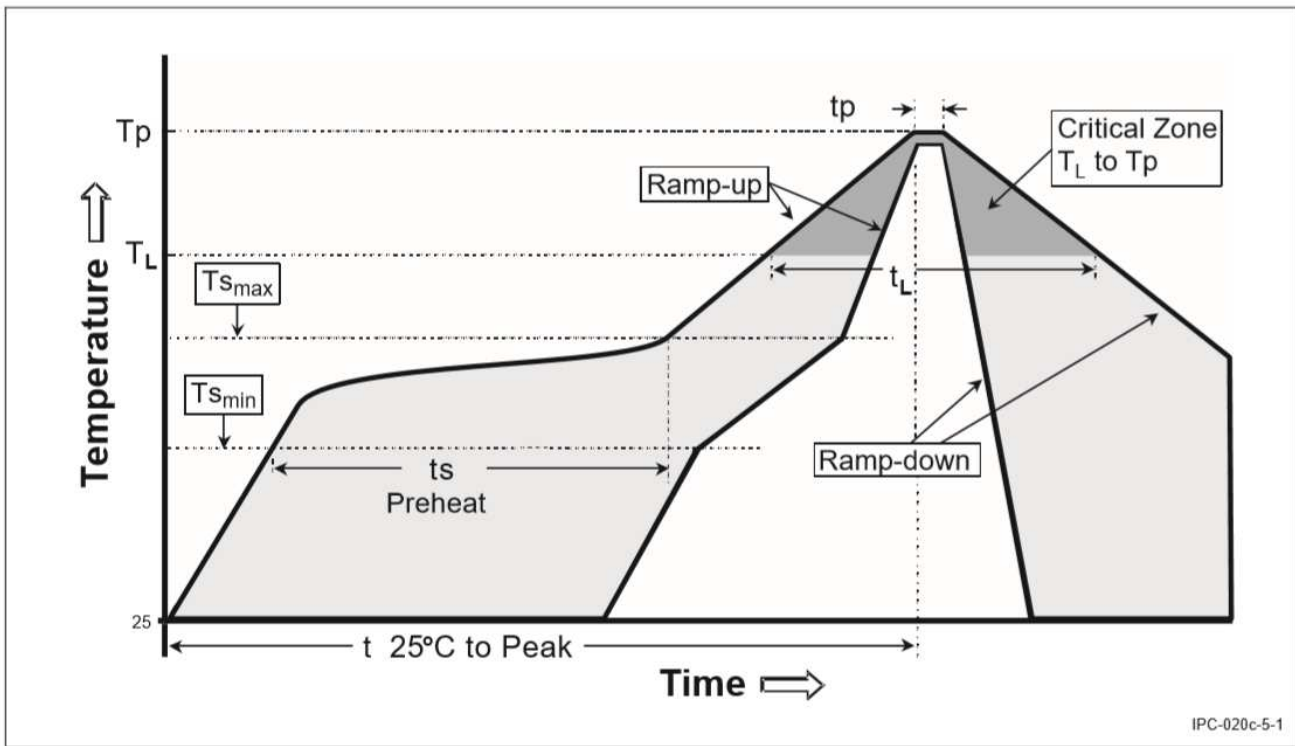

Figure 3
The connector must be soldered using non-focused infrared (IR) reflow or equivalent soldering technique. Reflow temperature and time may vary depending on the size of the pc board and placement of other components. This connector can be subjected to the reflow temperature and approximate time specified in Figure 3.
It is recommended that component temperatures not exceed the temperatures and times given in Figure 3.